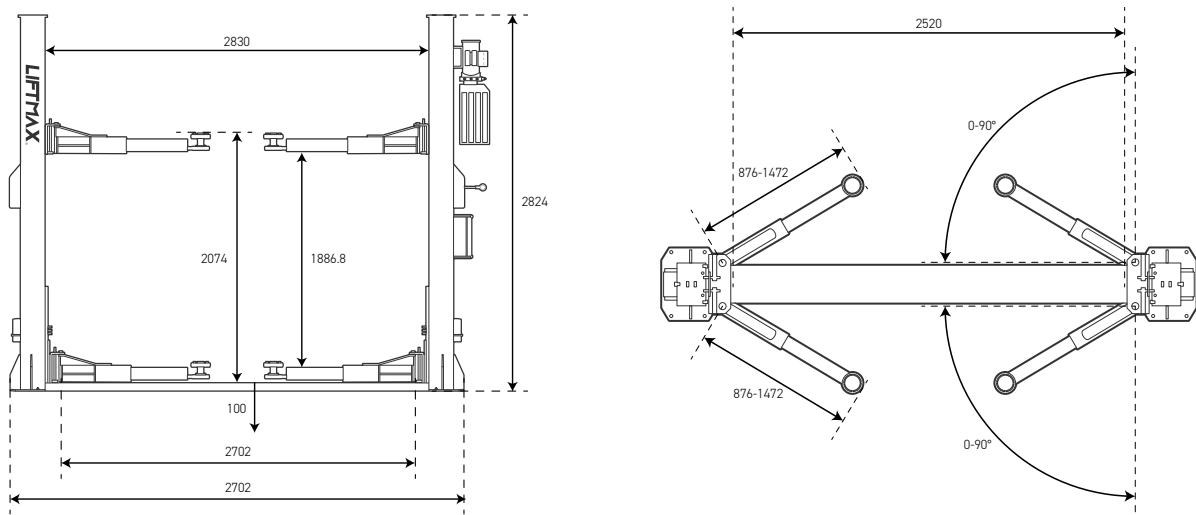

Fig. 23
1. Press the up push button, raise the carriages to a height of about 70cm off the ground, then press the park push button, set the main switch (IG) to position 0 and cut off the power supply to the lift.
3. Mount the arms into the carriage supports to make the locking wheel and locking block combined completely and inset the dowel pins into the support holes as shown in fig.23. After completing the operation, the attachment hole of the pins (the place to put the headless screw M10) on the arm must coincide with M10 drills on the carriage support. Mount spring and etc. under the pole. The locking wheel and locking block disengaged.